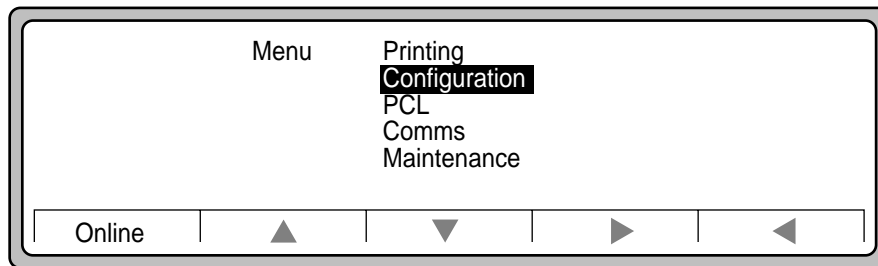

Figure 3-26 Configuration Menu
2. Press ▼ to move to Configuration (Figure 3-26).
- 4. Press ▼ to move to traylock (Figure 3-26).